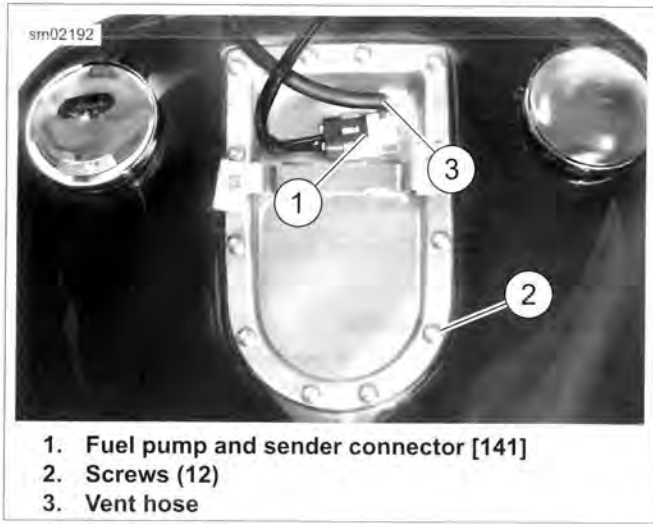

Figure 7-70. Top Plate Screws (Typical)
- See Figure 7-70. Connect fuel pump/sending unit connector [141] (1).